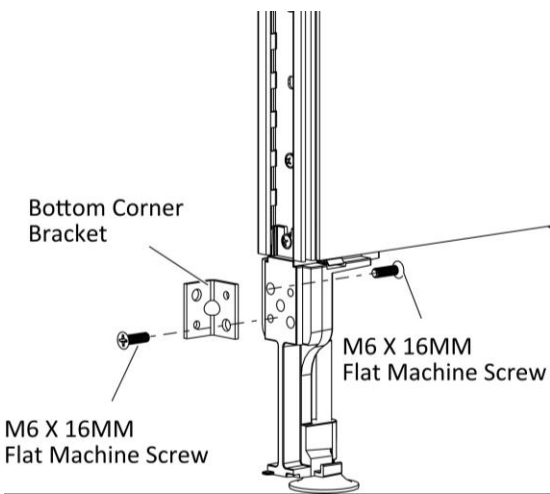

Figure 7
- Securely fasten the bottom corner bracket into the panel leg of the other short panel with two M6 X 16MM Flat Machine Screws, (Figure 7).